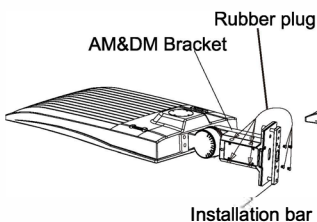

Figure 21
Step 1. Remove the four bolts from MM bracket, remove the four rubber plugs from the installation bar, put the four rubber plugs into where the four bolts were previously placed on the bracket for waterproofing (Figure 21)